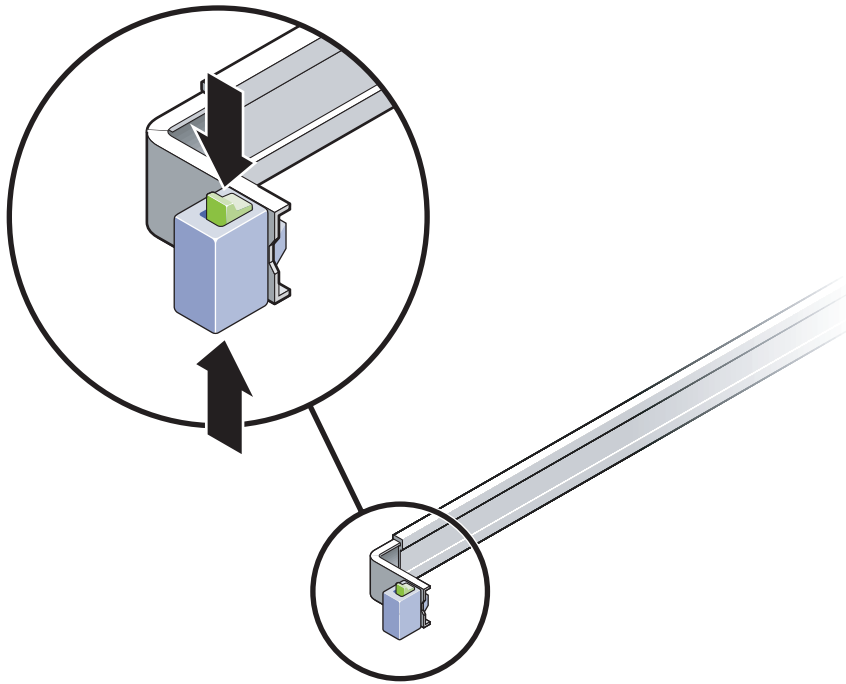

FIGURE 2-22 Unlocking the Slide Rail Assembly
2. Unlock the slide lock buttons (FIGURE 2-22) at the right and left sides of the server chassis, and slowly pull the server out of the rack until the slide rails reach their stops.